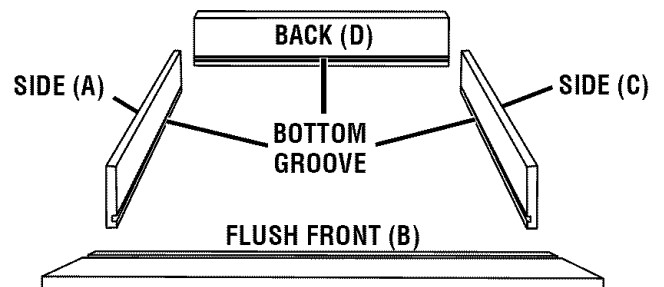

Fig. 21
- Mark the boards for the drawer or box on the inside with identifying letters near the bottom edge. See Figure 21.